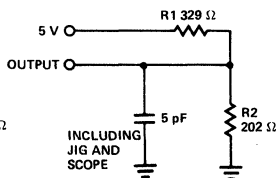

Figure 1b
- tHZCE and tHZWE are tested with CL = 5 pF as in Figure 1b. Transition is measured ± 500 mV from steady state voltage.